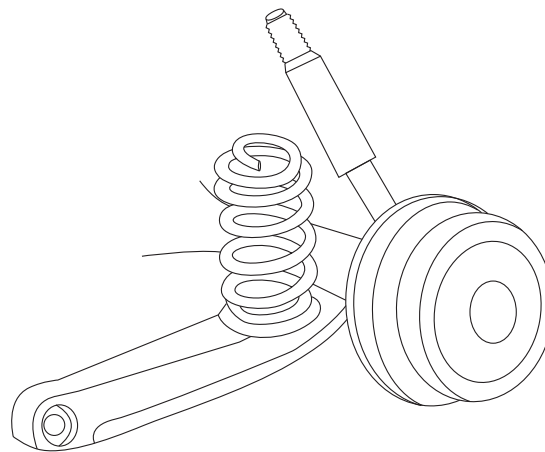

fig. C.1
5. Remove coil spring on left side by lowering the axle (Fig. C.1)